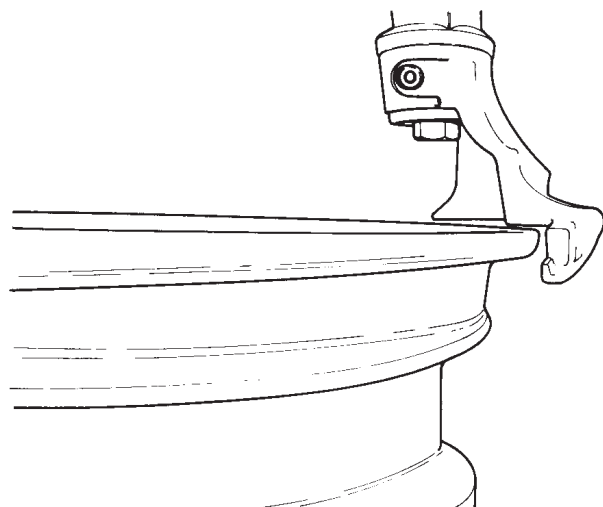

Fig. 4-4
E. Gently position the mount/demount head in contact with rim edge, now manually push the lock lever up and lock it into place. The mount/demount head automatically moves vertically up and away from the rim edge. Turn the swing arm adjustment knob clockwise until the mount/demount head moves horizontally away from the rim flange by approximately 1/16" (2mm): this is necessary to avoid any rim contact during the changing process. (Fig. 4-4).